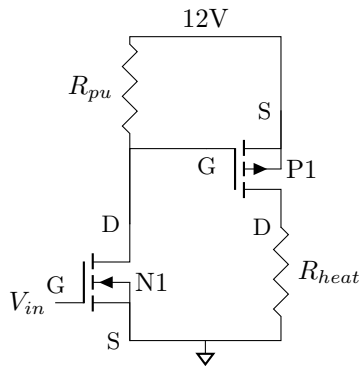

Figure 4: A high side MOSFET driver
To understand the operation of the high side driver shown in Fig 4 begin by assuming V_{in} is low. This means that $V_{GS} \ll V_t$ and (5) governs the operation of N1.